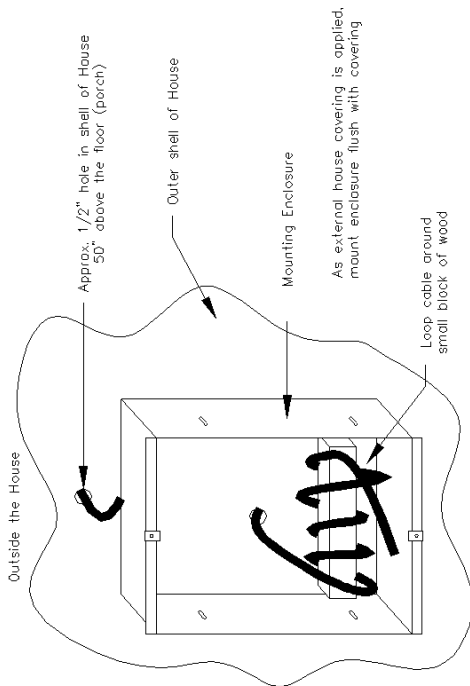

Figure 4
5. Run 1 door cable (MS4DCXSC or MS4DCX) from the master unit location to each door speaker location. Allow 18 inches of excess cable to each end. On the door speaker end suspend the correct plastic or metal enclosure on the cable about 50 inches above the floor (porch) so the brick mason can flush and level it in the brick wall (Fig. 4). If wood or aluminum siding is used, secure plastic or metal enclosure flush and level with the finished wall. Secure the cable at the master unit end with the rest of the cables.
3. **Outdoor Speakers:** Run a single cable (MS4XSC or MS4X) from the master unit location to each outdoor speaker location and secure the cable to the correct plastic or metal enclosure by wrapping the cable around a small piece of wood (Fig. 4 or 8). Secure the cables at the master unit location by tying in a loose knot with all the other cables.